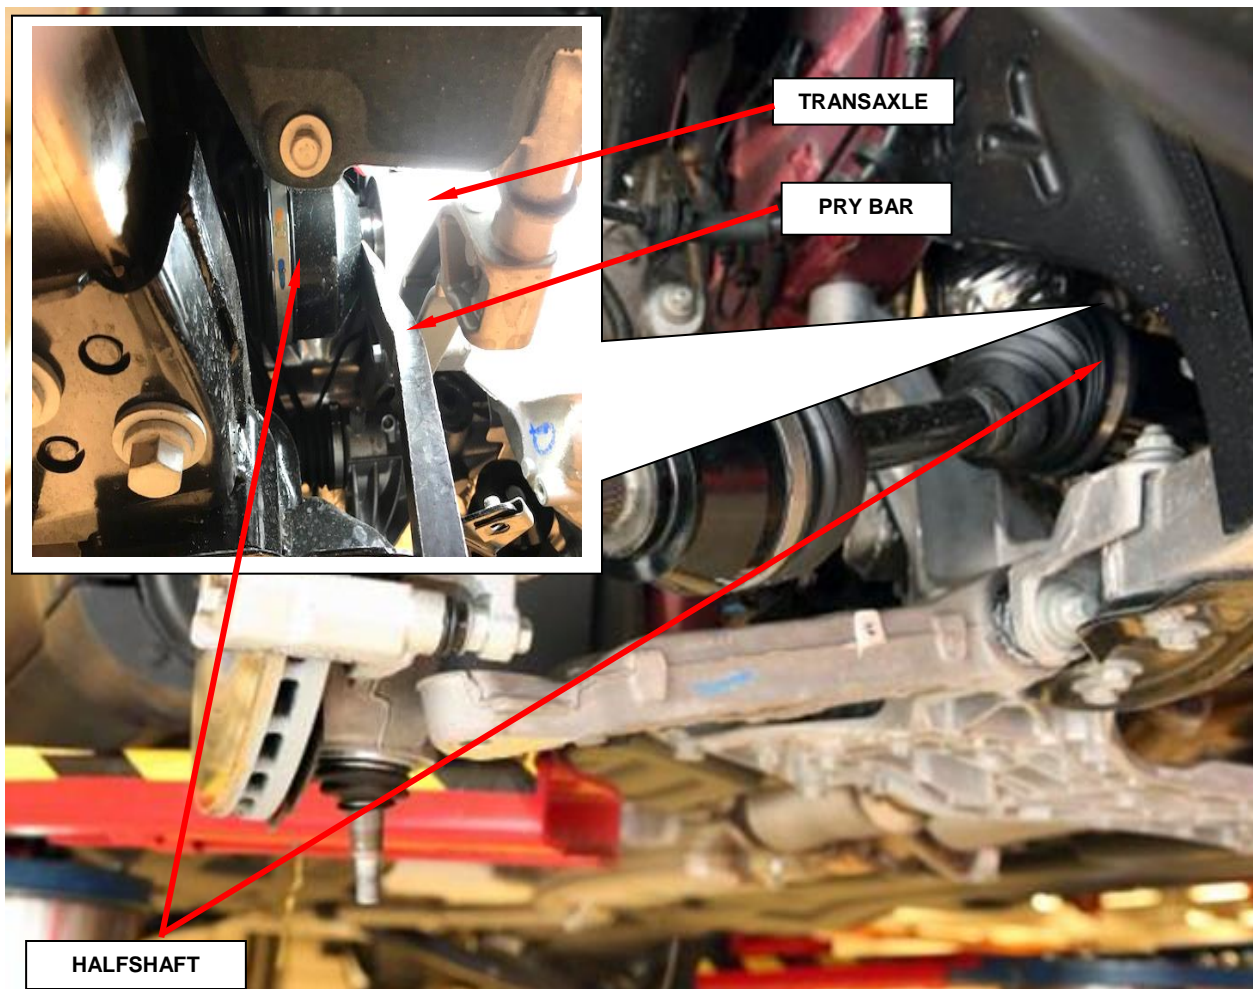

Figure 5 – Halfshaft (Transaxle End)
11. Using a pry bar or equivalent tool release the halfshaft from the transaxle and remove the halfshaft from the vehicle (Figure 5).